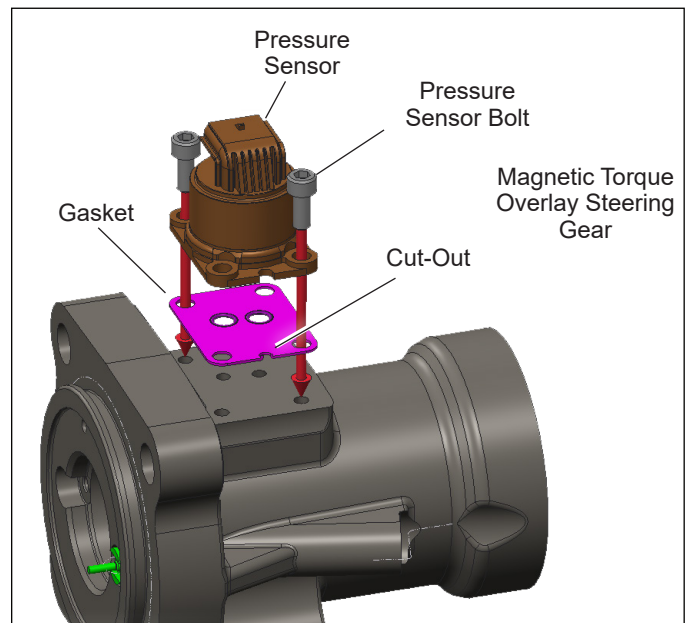

Figure 11 – Pressure Sensor and Gasket
1. Align the gasket and pressure sensor with the half circle cut-out in each part. See Figure 11.
2. Align the pressure sensor and gasket on the bearing cap. See Figure 11.
3. Hand start and torque the front right and back left pressure sensor bolts to 13-16 ft-lb (17.6-21.7 N•m) with the 5-mm hex (Allen®) bit. See Figure 11.